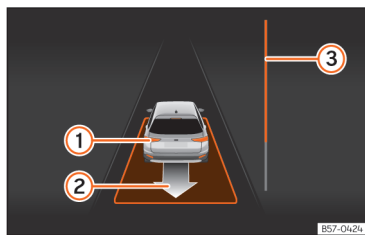

Fig. 143 On the instrument panel display: driving off from perpendicular parking.
- Reverse until the continuous ParkPilot signal sounds; **OR:** reverse until the instrument panel display shows the forward indication. The progress bar »» Fig. 143 (3) indicates the distance to cover.
- Press the brake pedal until the parking assist system completes the steering wheel turns; **OR:** press the brake pedal until the symbol (S) goes out on the instrument panel screen.